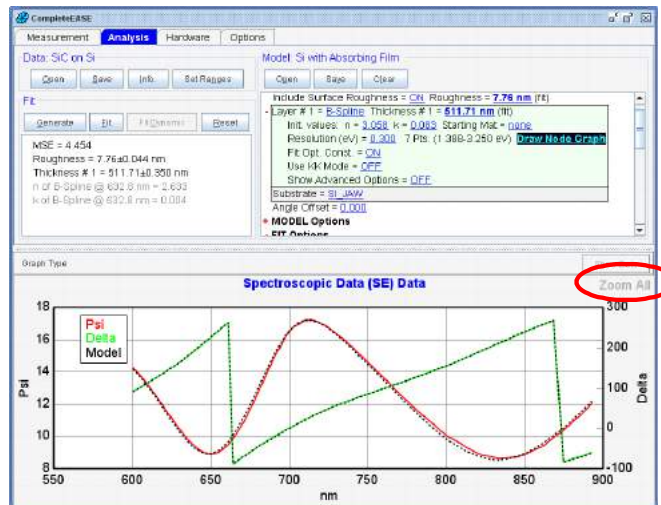

Figure 4-34. Press 'Zoom All' to select the entire wavelength range.
3. Finally, select the entire wavelength range. This is accomplished by dragging the mouse over both graph boundaries or pressing 'Zoom All' at the top-right of the graph panel (Figure 4-34).